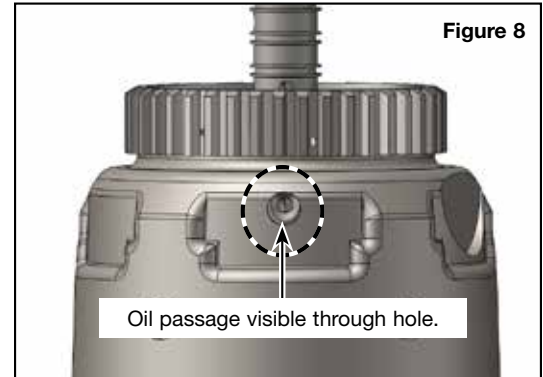

Figure 8
- Verify input shaft is installed all the way by looking through the housing at the location shown (**Figure 8**). The oil passage within the shaft should be visible through the housing.